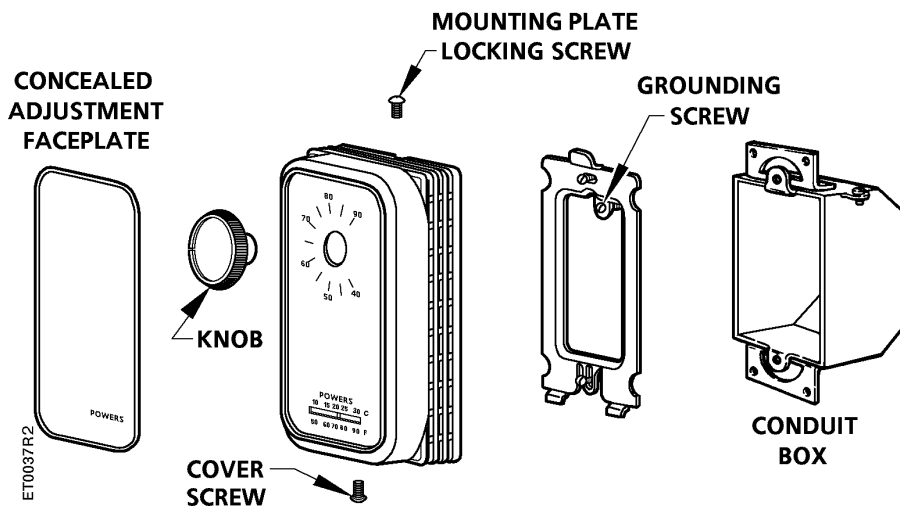

Figure 3. Mounting a 134-1084, 134-1085 or 134-1086 Thermostat to a Conduit Box.
2. Remove the mounting plate from the back of the thermostat by unscrewing the mounting plate locking screw (see Figure 3) with the Allen wrench provided.